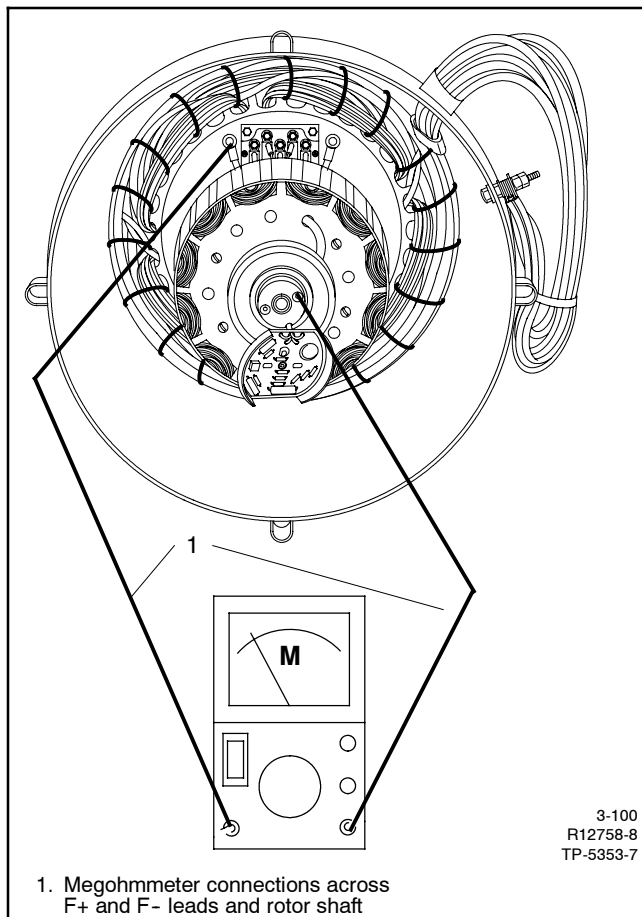

Figure 3-16 High Voltage Test
4. Using a megohmmeter, apply 500 volts DC to the F+ or F- lead and the rotor shaft. See Figure 3-16. Follow the instructions of the megohmmeter manufacturer when performing this test. A reading of approximately 500 kOhms (1/2 megohm) and higher indicates the field winding is good. A reading of less than 500 kOhms (approximately) indicates deterioration of winding insulation and possible current flow to ground. Repair or replacement of the rotor assembly is necessary.